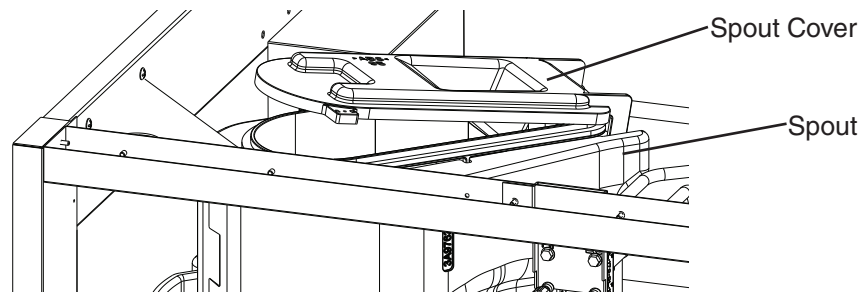

Fig. 21
- 6) "GM" LED and "COMP" LED are on. Open the spout cover slightly. See Fig. 21. "GM" LED and "COMP" LED turn off within 10 seconds and the control board sounds a 9 beep alarm. Close the spout cover.